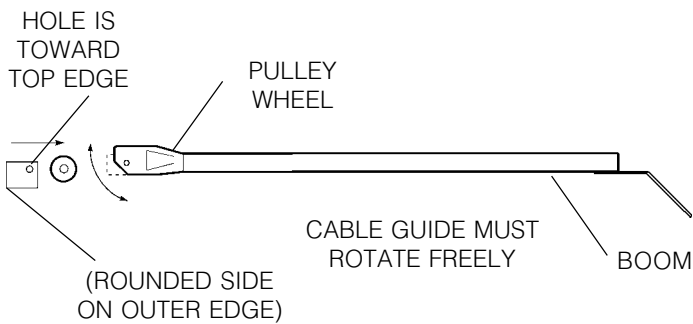

Fig. 9-5 Mounting cable guide and pulley wheel to boom.
- Place the **pulley wheel** inside the cable guide and place this subassembly into the end of the boom (Fig. 9-5). Ensure the **clevis pin** through-hole is toward the top of the boom and the rounded end of the cable guide is toward the outside. Slide the clevis pin through the hole and fasten with the 1/8" x 1" cotter pin.